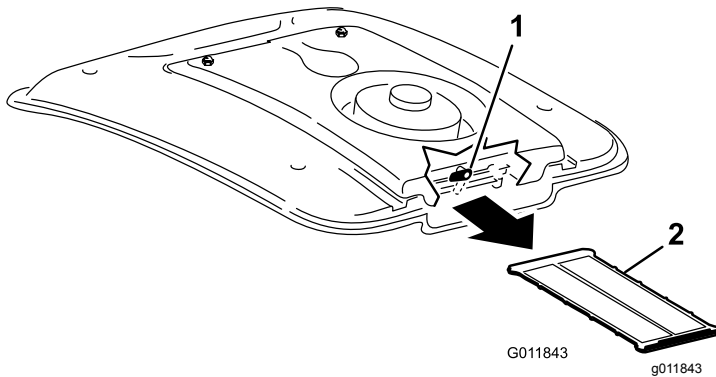

Figure 115
2. On the rear of the fan mount, rotate the latch to the side (Figure 115).
3. Slide the A/C screen out from under the air conditioning coil (Figure 115).
4. Clean the screen thoroughly with compressed air (Figure 115).